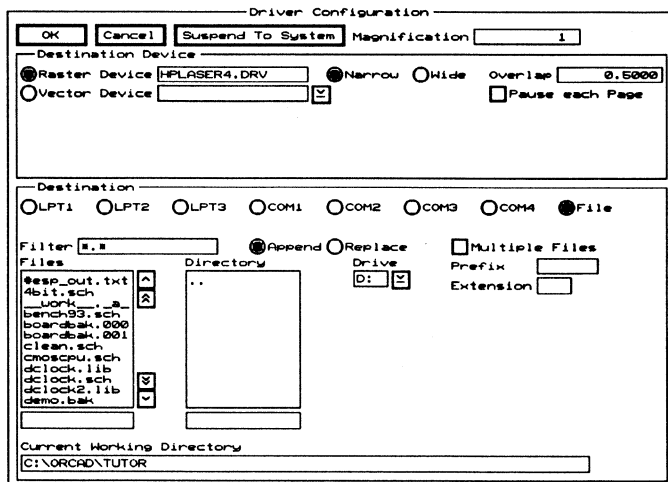

Figure 9-2. The Driver Configuration dialog box.
1. Select **Driver**. The **Driver Configuration** dialog box displays (figure 9-2).